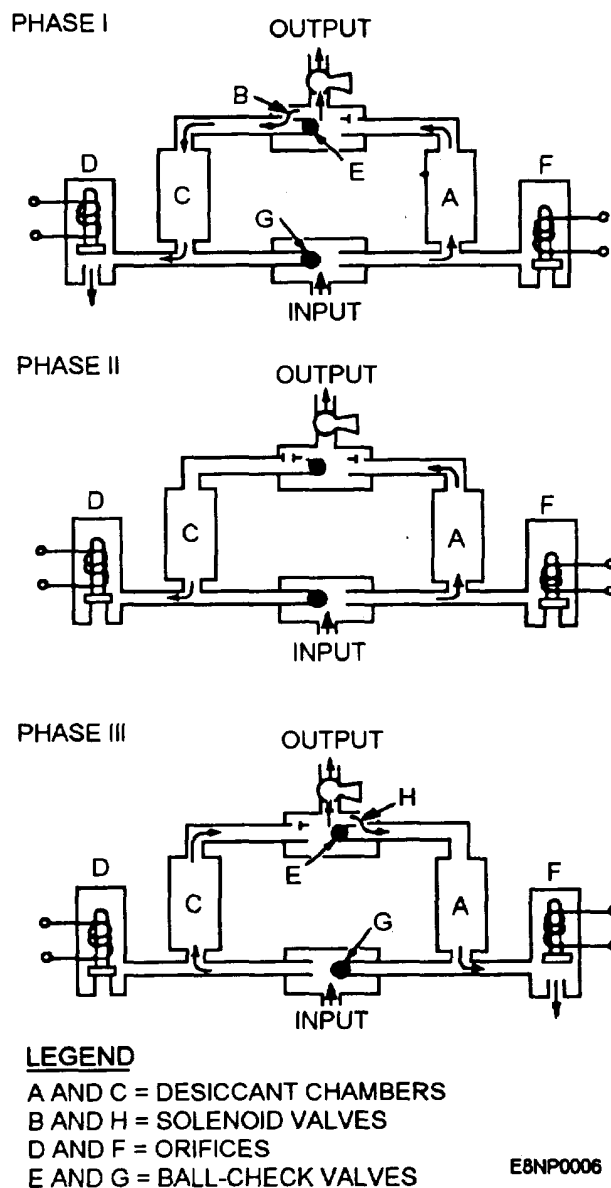

Figure 2-6.—Dehydrator operating cycle.
Let us take a detailed look at the operation of a dehydrator. We'll consider a complete cycle of operation. Refer to figure 2-6, phases I, II, and III for the following descriptions.
**PHASE I—DRY/PURGE.**— The solenoid valve (F) is closed. Solenoid valve (D) is open. Incoming moist air, under pressure, flows through chamber (A), where it is dried. Most of this dry air is passed through the outlet conduit to be put to use. A small quantity, however, bypasses the closed ball-check valve (E) through a small orifice (B) into chamber (C). Here it picks up moisture from the partially saturated desiccant and passes out of the unit through the open valve (D). Since the chamber being purged is at near-atmospheric pressure, the ball-check valves (E) and (G) are held in place by the pressure of the main airflow.
**PHASE II—DWELL.**— The timer closes both solenoid valves (D) and (F). This allows the pressure in the regenerated chamber (C) to build up through the orifice to approximately that of chamber A.
**PHASE III—DRY/PURGE.**— In figure 2-6 (phase III), the solenoid valve (F) is opened by the timer; solenoid valve (D) remains closed. The pressure in chamber (A) drops immediately, causing the ball-check valves (E) and (G) to move rapidly to the right, sealing off chamber (A) and directing the main airflow through chamber (C) where it is dried. A portion of this dry air, leaking through orifice (H), passes through chamber (A) where it picks up moisture and is emitted to the atmosphere through valve (F). After completing another dwell period, the cycle repeats.